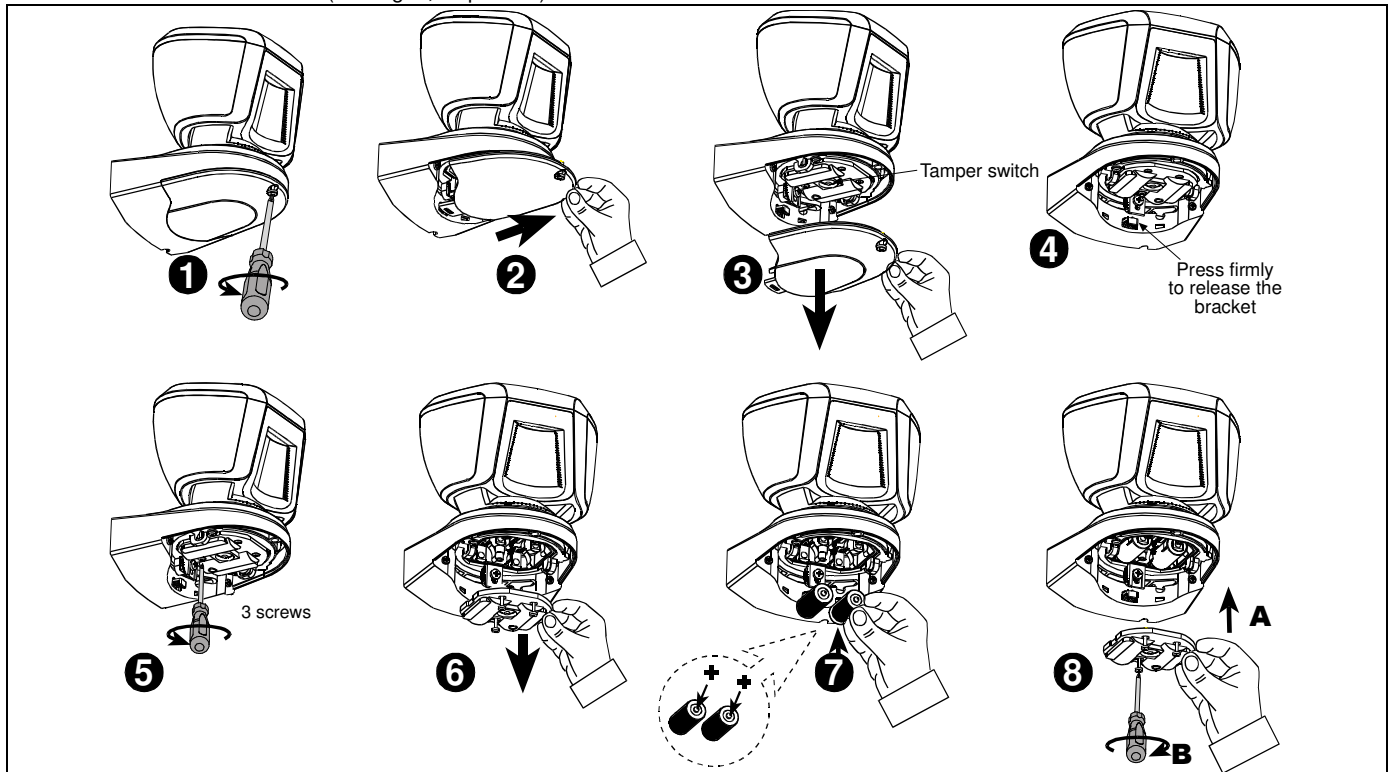

Figure 3 – Battery Insertion
Remove the 2 detector's bottom covers (see Figure 3. steps 1-5) to gain access to the DIP switches. Set the DIP switches according to Table 1:
3.2 Battery Insertion (Figure 3)
tamper switch, i.e. open the detector bottom cover (see Fig. 3, steps 1 - 3) and then close it.
Open the detector bottom cover (see Fig. 3, steps 1 - 3) and then press and release the tamper switch. The LED will flash for 60 seconds and then the detector will enter into 15 minutes walk-test mode.